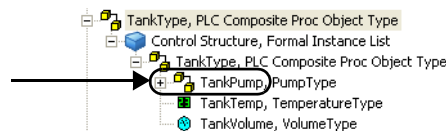

Figure 12. Added Object Type Instance
27. Expand the 'TankType' object type to view the added instance, see also Figure 12.